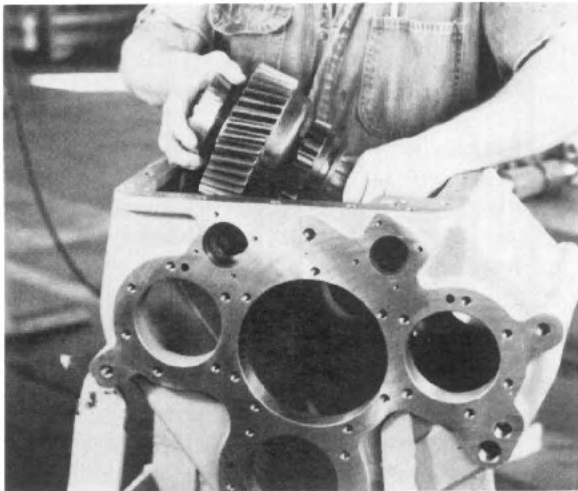
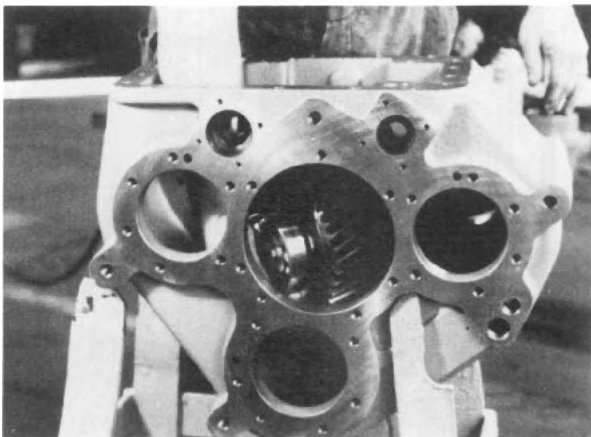
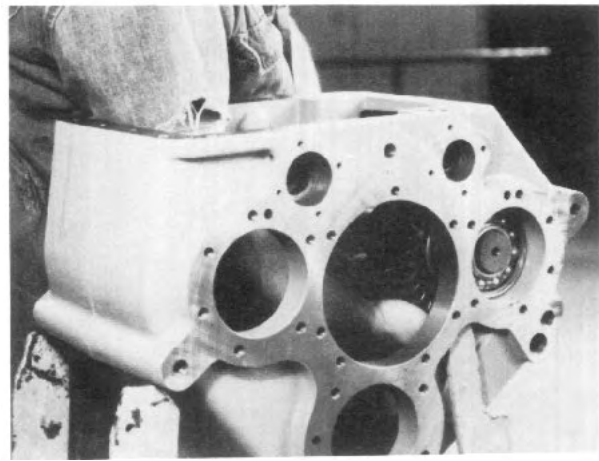

Fig. 9
Fig. 10
Fig. 11
2. Lower this assembly into the cover opening of the case housing with the gear at the opposite side of the housing from the front output opening (See Fig. 9). Guide the threaded shaft end into the front output (See Fig. 10) opening and swing the gear end partially into the intermediate shaft rear opening. This will allow the other end of the shaft to enter the front output opening. Advance the shaft through the front output opening enough to permit backing the bearing into the rear case bearing bore (See Fig. 11).